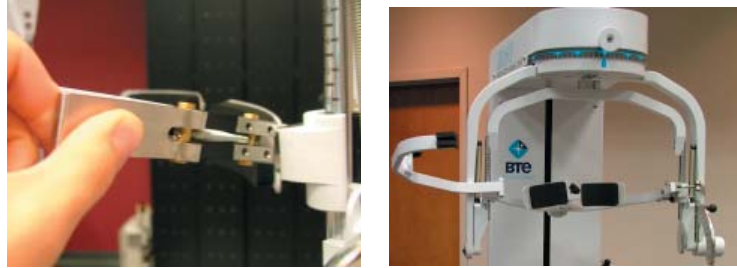

Figure 6-63. Open Halo
Step 3. Using the latch on the right side, open the halo (Figure 6-63).